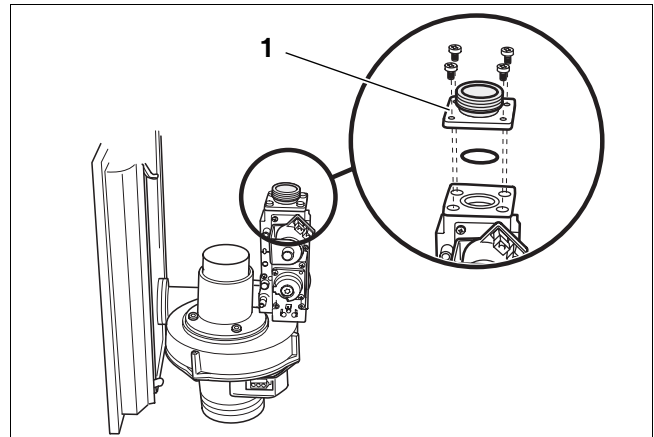

fig. 10 Installing the gas flange
- Install the gas flange from the natural gas assembly on the new gas valve (fig. 10, **pos. 1**).